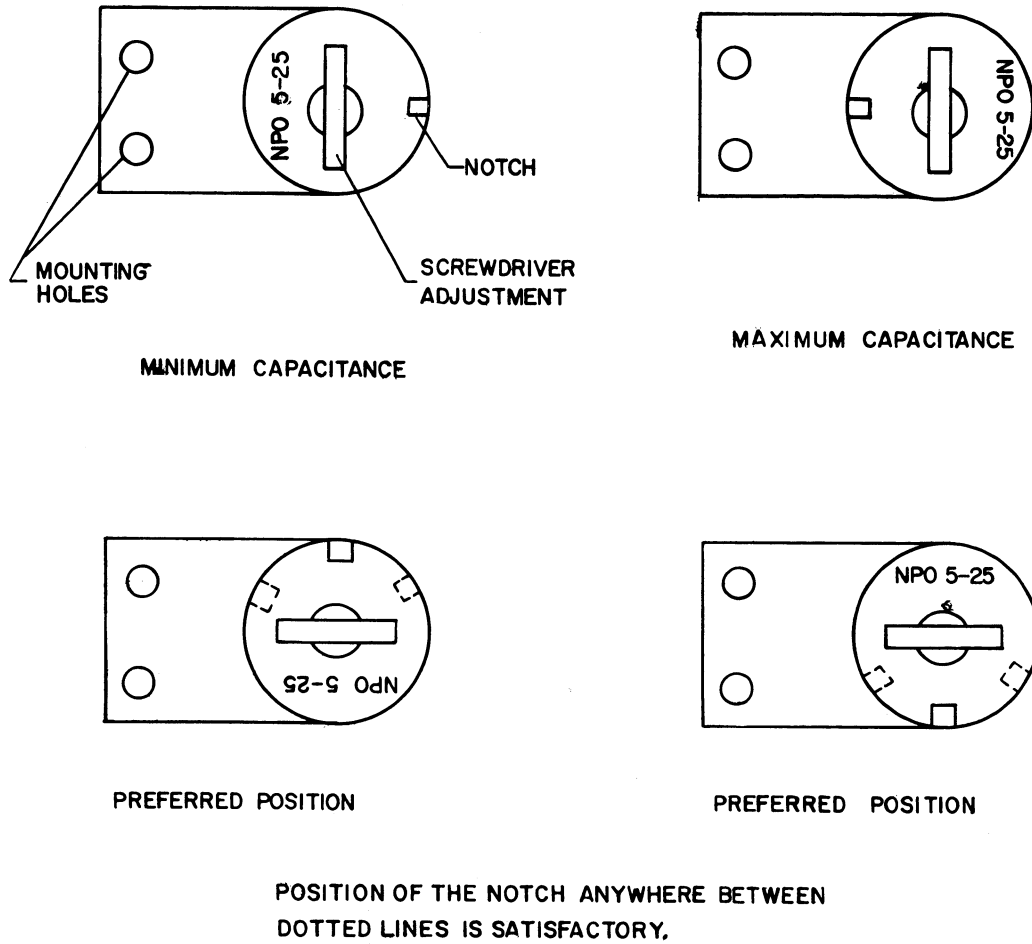

Figure 3. Carrier Balance Capacitor, C11
- h. If C11 reaches minimum or maximum according to figure 3 before proper carrier balance is obtained, the value of C12 must be changed in accordance with note 1 or note 2 following step 10. C12 may be connected in either of two places depending on the unit in which it is installed.
- e. If C11 reaches minimum or maximum according to figure 3 before proper carrier balance is obtained, the value of C12 must be changed in accordance with notes below. C12 may be connected in either of two places depending on the unit in which it is installed.